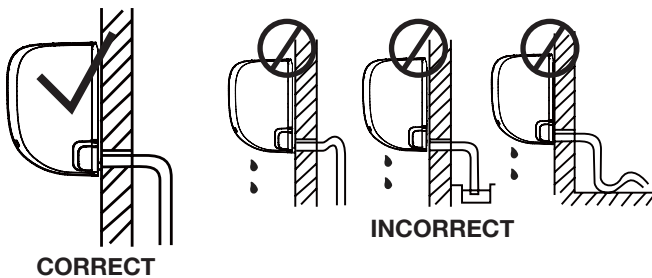

Figure 5: Installation of drain hose
**NOTE: The drain hose must slope downward along its entire length to prevent damage to the unit (see figure 5 for proper installation). To ensure proper drainage, attach the drain hose on the same side that your refrigerant piping exits the unit. Make sure to attach drain hose extension to the end of drain hose before operating. Wrap the extension connection point firmly with Teflon tape to ensure a good seal and to prevent leaks.**